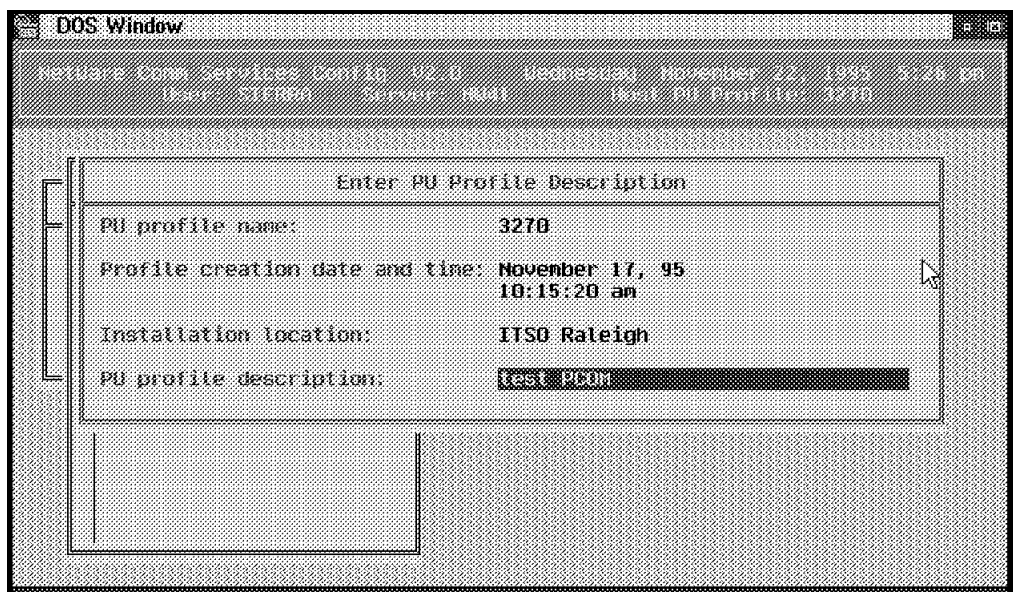

Figure 214. Configuring Host Connections - PU Profile Description
12. A panel appears as shown in Figure 214. Fill in some textual information related to your server.